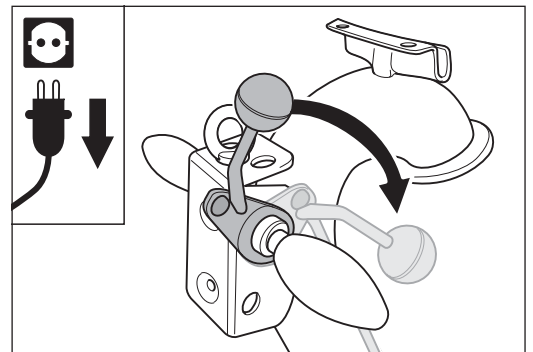

Fig. 28 Press the lowering lever at the handle downwards.
- 9 Press the lowering lever at the handle downwards (Fig. 28) to lower the sanding drum onto the floor.
- 1 Press the lowering lever at the handle downwards (Fig. 28).